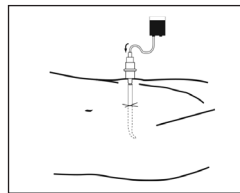

Figure 5
14. Run solution into peritoneal cavity. Gently manipulate patient as required to insure proper intermixing of fluid. Suggested time to allow for intermixing is 10 minutes (refer to Figure 5).